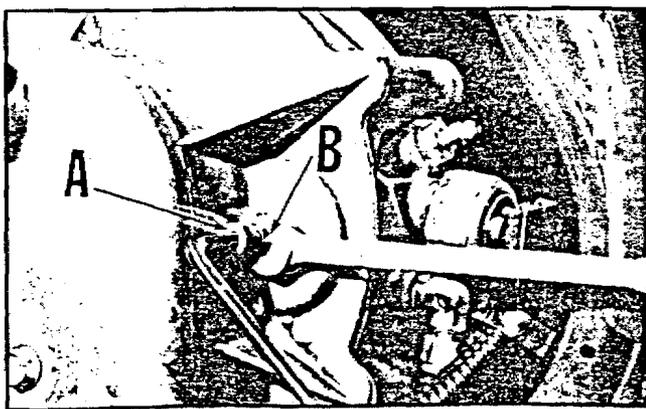

Figure 2
Replace brake pads when allen adjusting screw (A) (figure 2) makes contact with locknut (B). Brake pads should be replaced in pairs. See your dealer for replacements.
1. Excessive Brake Pad Clearance – Loosen allen screw adjuster locknut. Turn adjuster screw clockwise until pads are tight against disc, then back off screw 1/2 turn counterclockwise and re-tighten locknut (figure 2). There should be a minimum of .015" clearance between the brake pads and the brake disc.